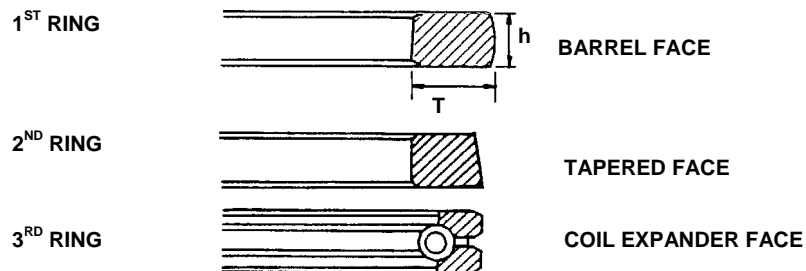

Figure 3. Piston Rings Measurement.
1. Measure the thickness (t) and height (h) of the piston ring. See Figure 3.